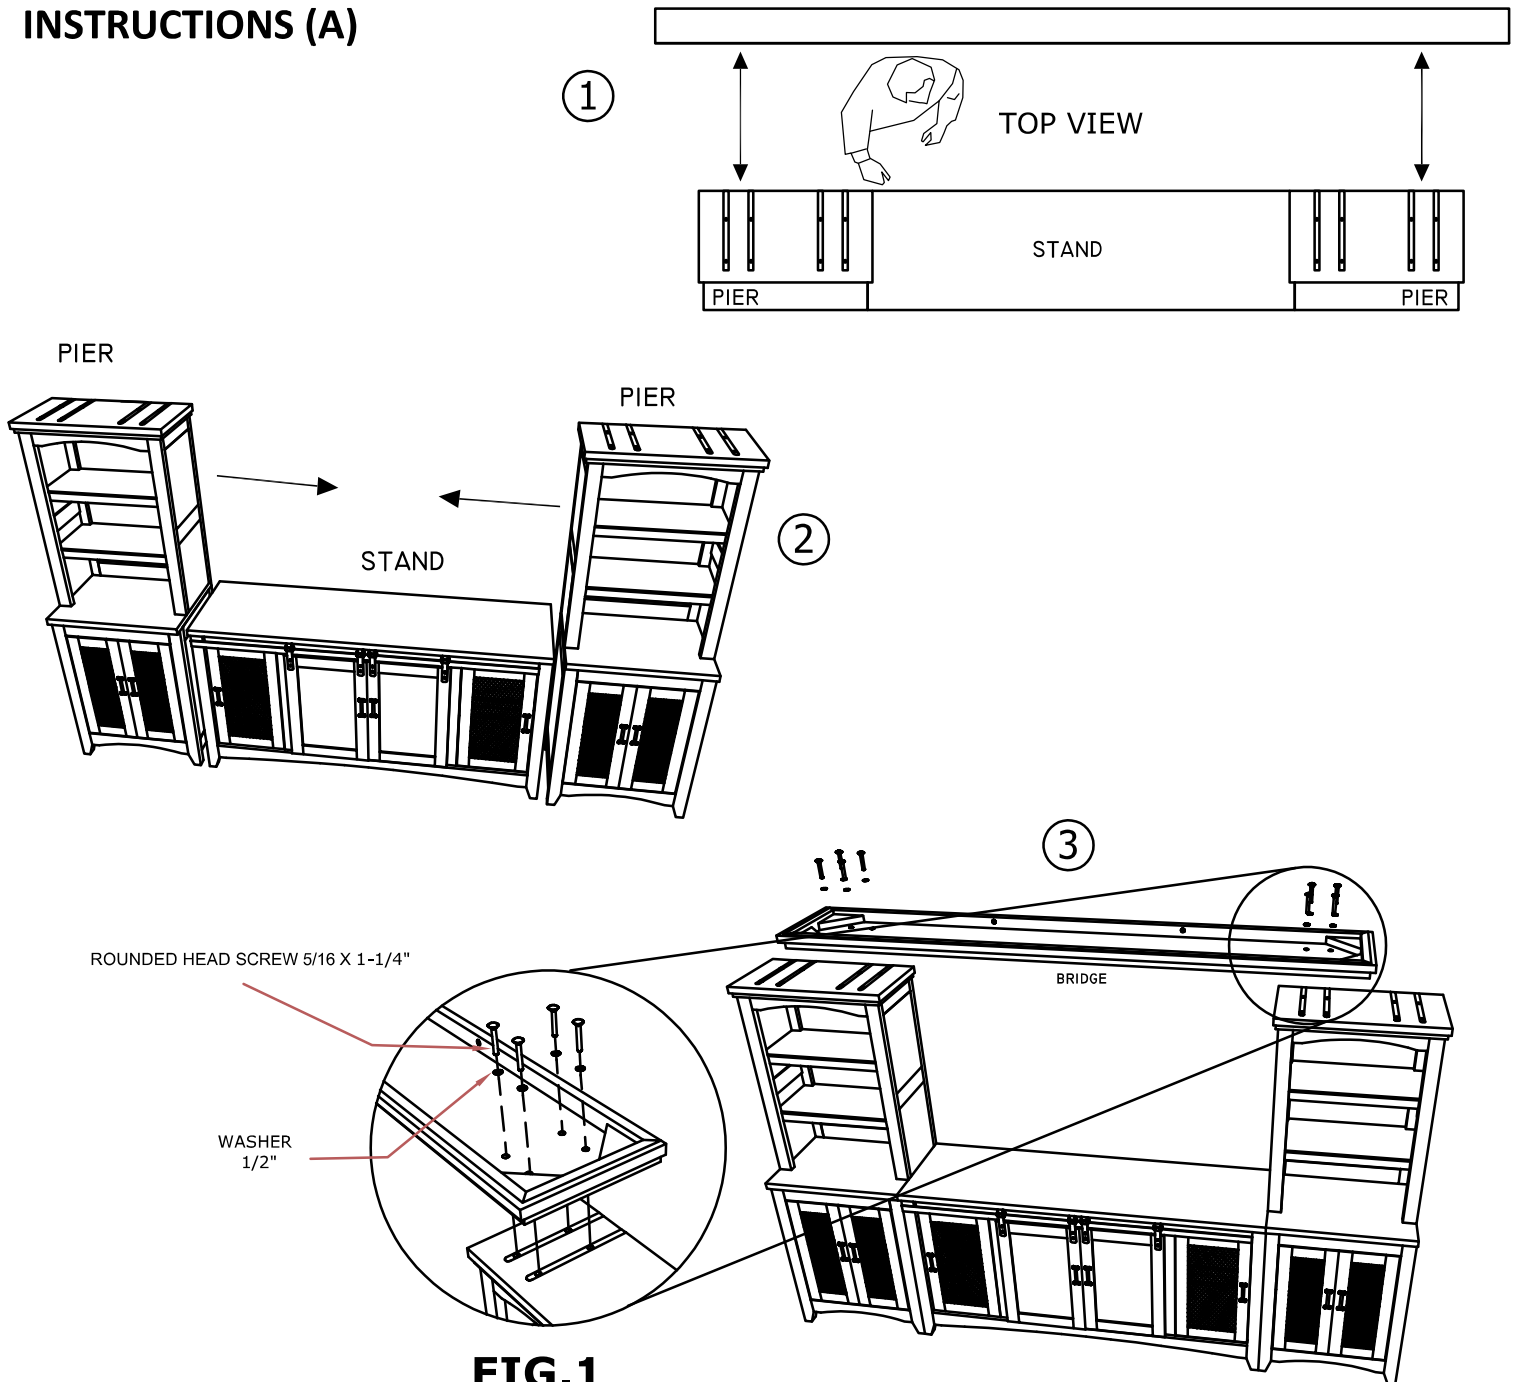

FIG.1
- 3.- WITH LITTLE HELP PLACE THE BRIDGE ON THE PIERS ALIGNING THE HOLES WITH THE TOP BRIDGE AND PIERS TO SCREW THEM AS SHOW IN FIG. 1